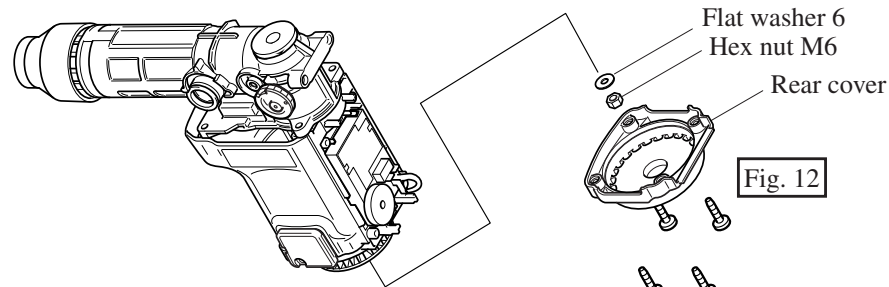

Fig. 12
- (5) Disassemble rear cover, and unscrew hex nut M6 with impact driver as illustrated in Fig. 12.